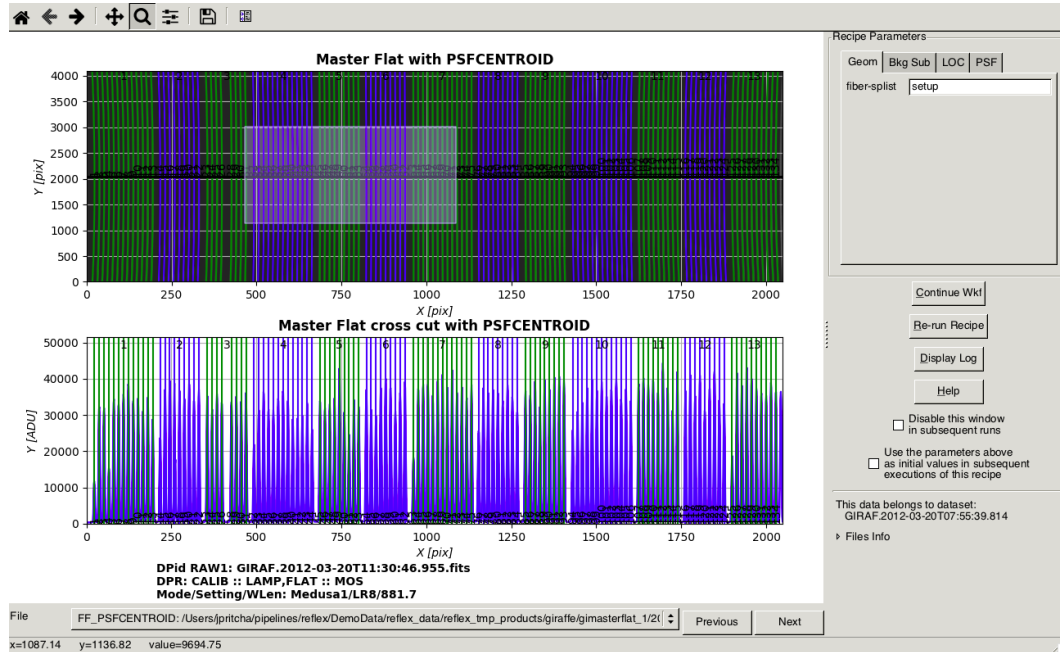
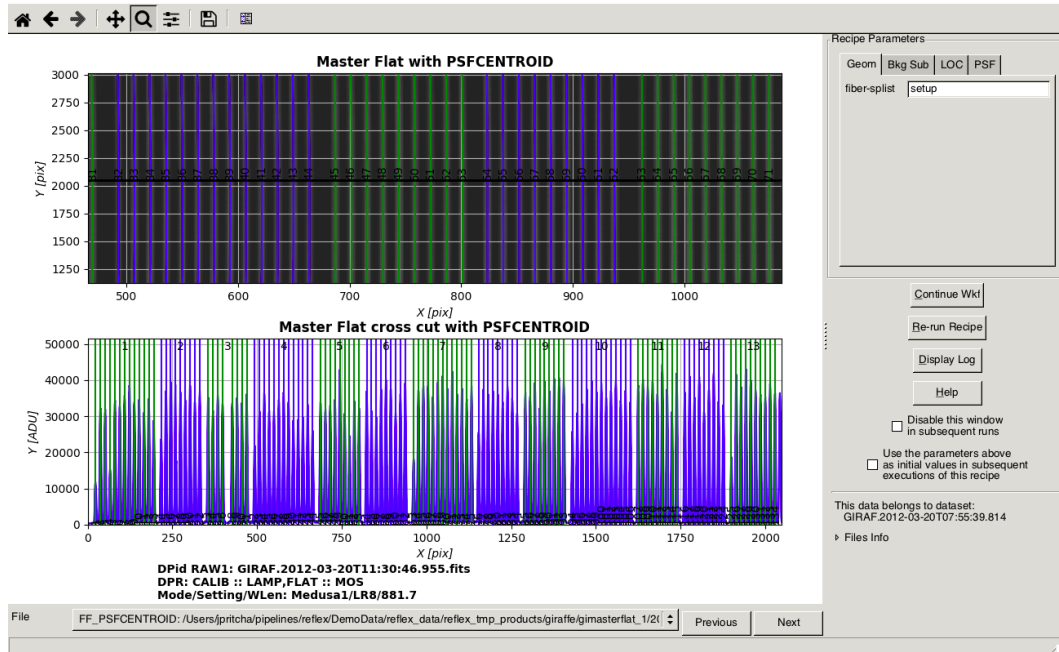

Figure 3.5: Zooming in on the displayed MasterFlat.
Figure 3.6: The zoomed display of the MasterFlat.
- Interact with the displays:** click on the Matplotlib Zoom button,  ¹⁰ to enter Zoom mode. Now click and hold the mouse button while over the image or cross-cut display subplots and then drag the mouse to define a rectangular region (see figure 3.5) which will be redisplayed zoomed into the respective display window (see figure 3.6).